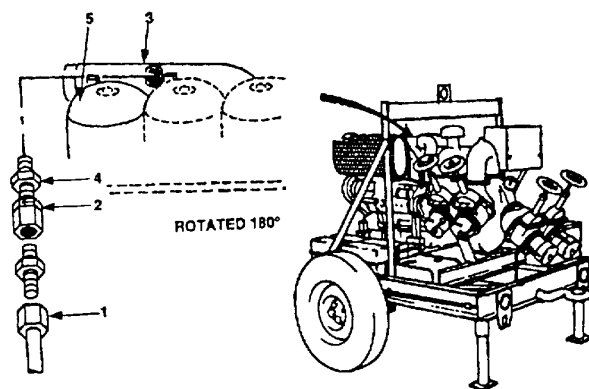
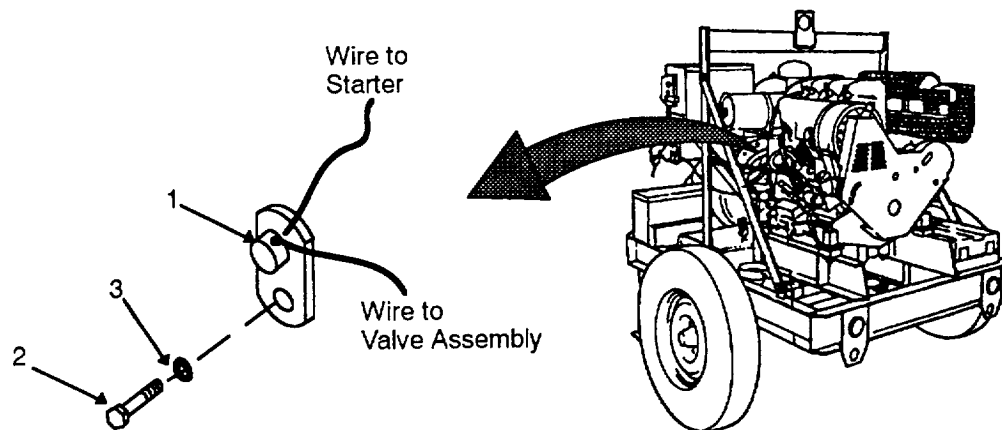

Figure 4-7. Starting Aid Nozzle Maintenance (All Except Model 350 PAFN).
Figure 4-7.2. Starting Aid Temperature Switch (Model 350 PAFN).
- a. Disconnect hose (1, figure 4-7) from nozzle (2).
- b. Remove nozzle (2) from intake manifold (3).
**4.10.4.2.1. Removal. (Refer to Figure 4-7.2)**
- a. Tag and cut wires from temperature switch (1) to valve assembly and starter solenoid (figure 4-7,2, 1).
- b. Remove screw (2) and flat washer (3) and temperature switch from side of engine.
**4.10.4.2.2. Installation. (Refer to Figure 4-7.2)**
- a. Position temperature switch (1) on side of engine and secure with screw (2) and flat washer(3).